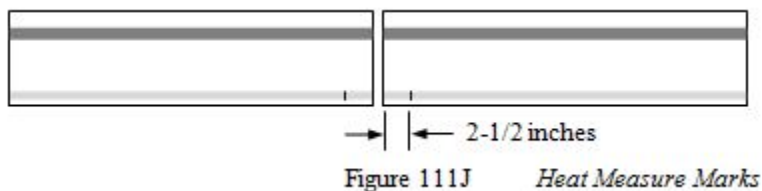

Figure 111J Heat Measure Marks
Step 1: Place a mark on both sides of the rail base of each rail, 2-1/2 inches from the end of each rail. (See Figure 111J)